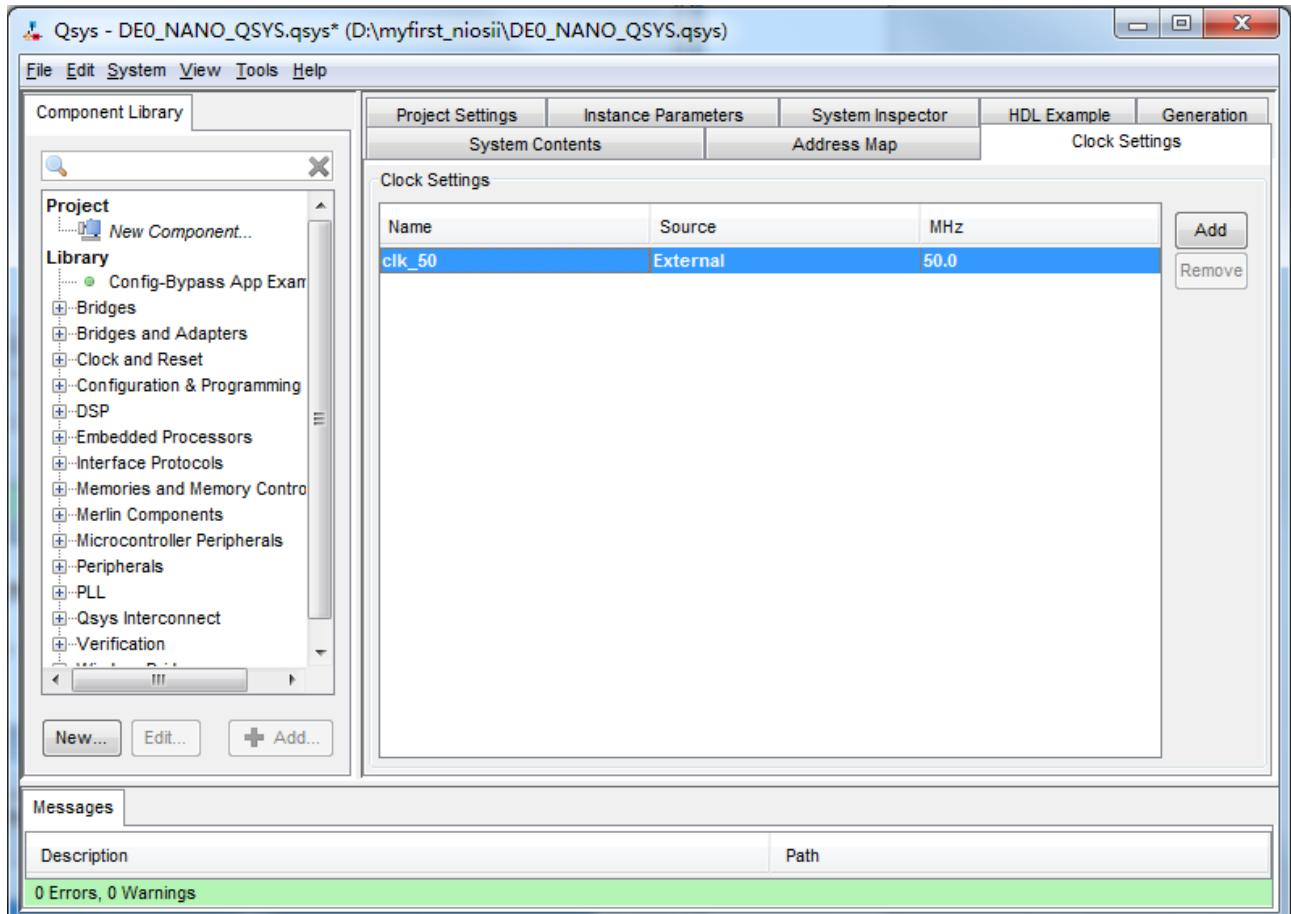

Figure 1-14 Rename Clock Name
8. Click the Name of the Clock Settings table, rename clk_0 to clk_50. Press Enter to complete the update. See **Figure 1-14**.